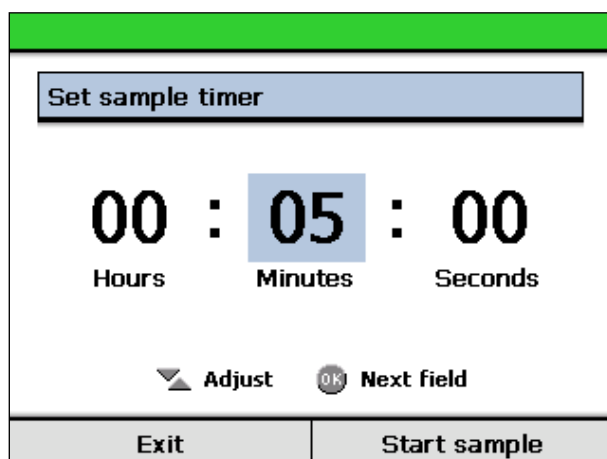

Figure 40 *Timed Sample Setup*
- 3] From the main menu select 'Timed sample' then select 'Start new sample'. The timed sample setup screen will be shown (Figure 40)